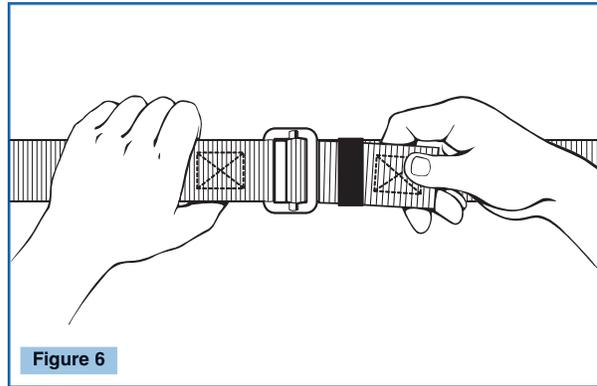

Figure 6
**6. Inspect friction slide adjusters.** Check all friction slide adjusters for distortion, sharp edges, and cracks. Make sure outer bars and center bars are straight. Also check corners and attachment points for wear and cracks. (See Fig. 6)